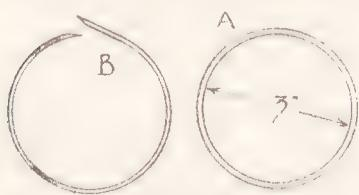

Fig. 2—The rings
The rings may be bought at a toy or sport shop. They are of rubber, about the best material for such a purpose, being silent in action. If any difficulty is experienced in getting these rings, then it is not a great matter to make a set for oneself. They can be cut from plywood, with an internal diameter as at (A) in Fig. 2, and external one of 3 3/4 ins., not more. These are, however, rather noisy when striking the board, and a good plan to silence them is to wind a thin cord or twine round them.
If you can get a piece of thick rubber, say, about 1/8 in., then good rings can be made by cutting a strip 1 1/2 ins. wide and long enough to make the rings, plus 1/8 in. for the joint. Scarf the joint as at (B) in Fig. 2, and cement together with rubber solution, binding it until the solution is safely set. This can be cut into six slices